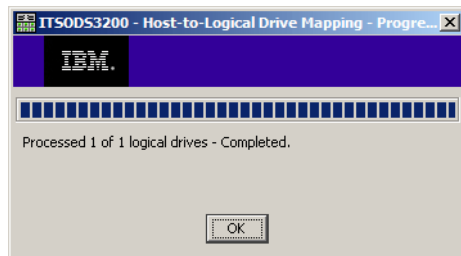

Figure 20-35 Confirmation
12. Figure 20-35 confirms the completion of this task. Click **OK** to proceed.